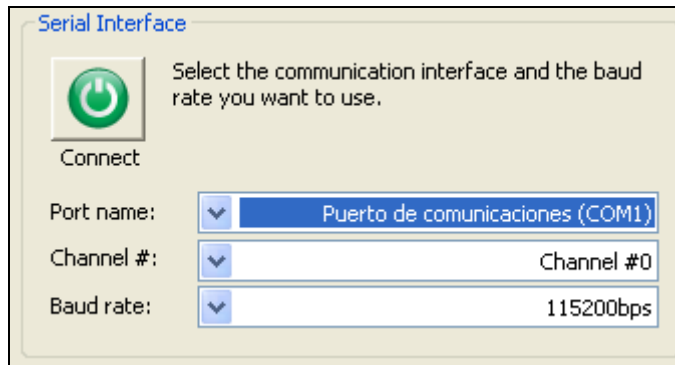

Figure 5: RS232 interface setup
2. In the option Select Device of the menu Configure, select the device of your system (see Figure 5).